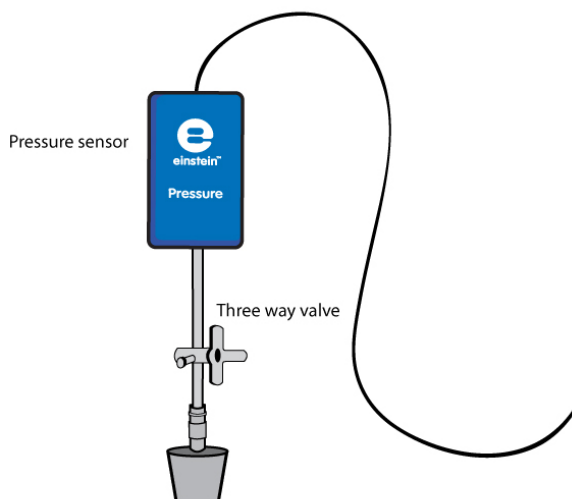

Figure 2
9. Insert a syringe extender into both stoppers (Figure 2).